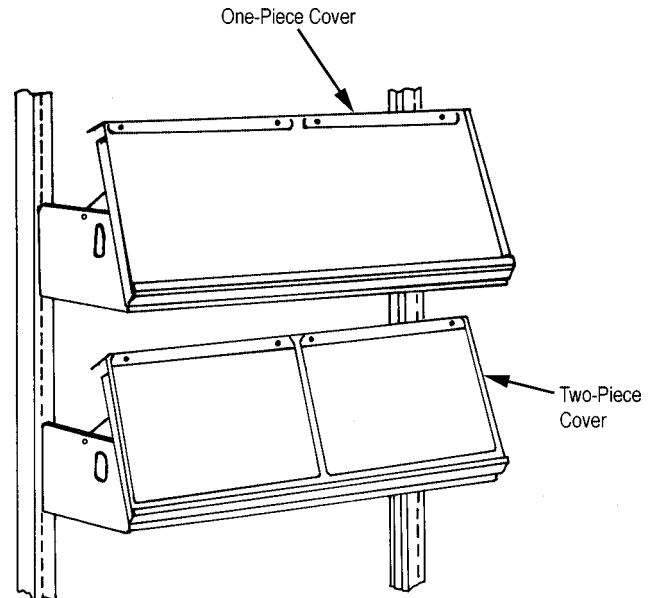

FIGURE 27A
1. Installation is the same for both the one-piece and the two-piece covers. See Figure 27A.
5. Shelves are now ready to be located. See Figure 27A.